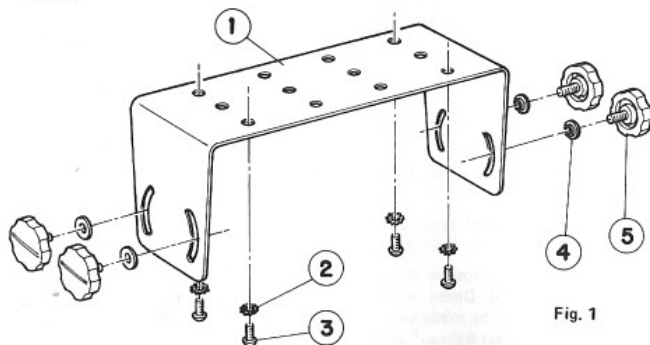

Fig. 1
6. Under the conditions of OFF DC Power, connect DC power cable to battery. Red wire is plus, and minus for black. Standard voltage is between 12V and 13.2V and maximum operating voltage is between 11.2V and 15.2V. Please check the voltage carefully before connecting as unit will not only operate properly but will be damaged if you use over rating condition. This unit is designed for both plus and minus ground of hull. When you use with plus grounded hull, please refer to Fig. 1, 2 and be careful to be sure to install the insulation bush for short circuit as this unit is insulated by the point of the insulation bush of mounting bracket.